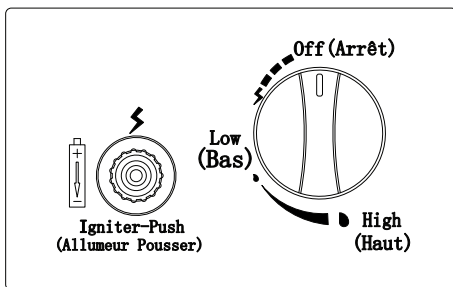

Figure 1
2. Control knob must be in the “OFF” position (Figure 1).